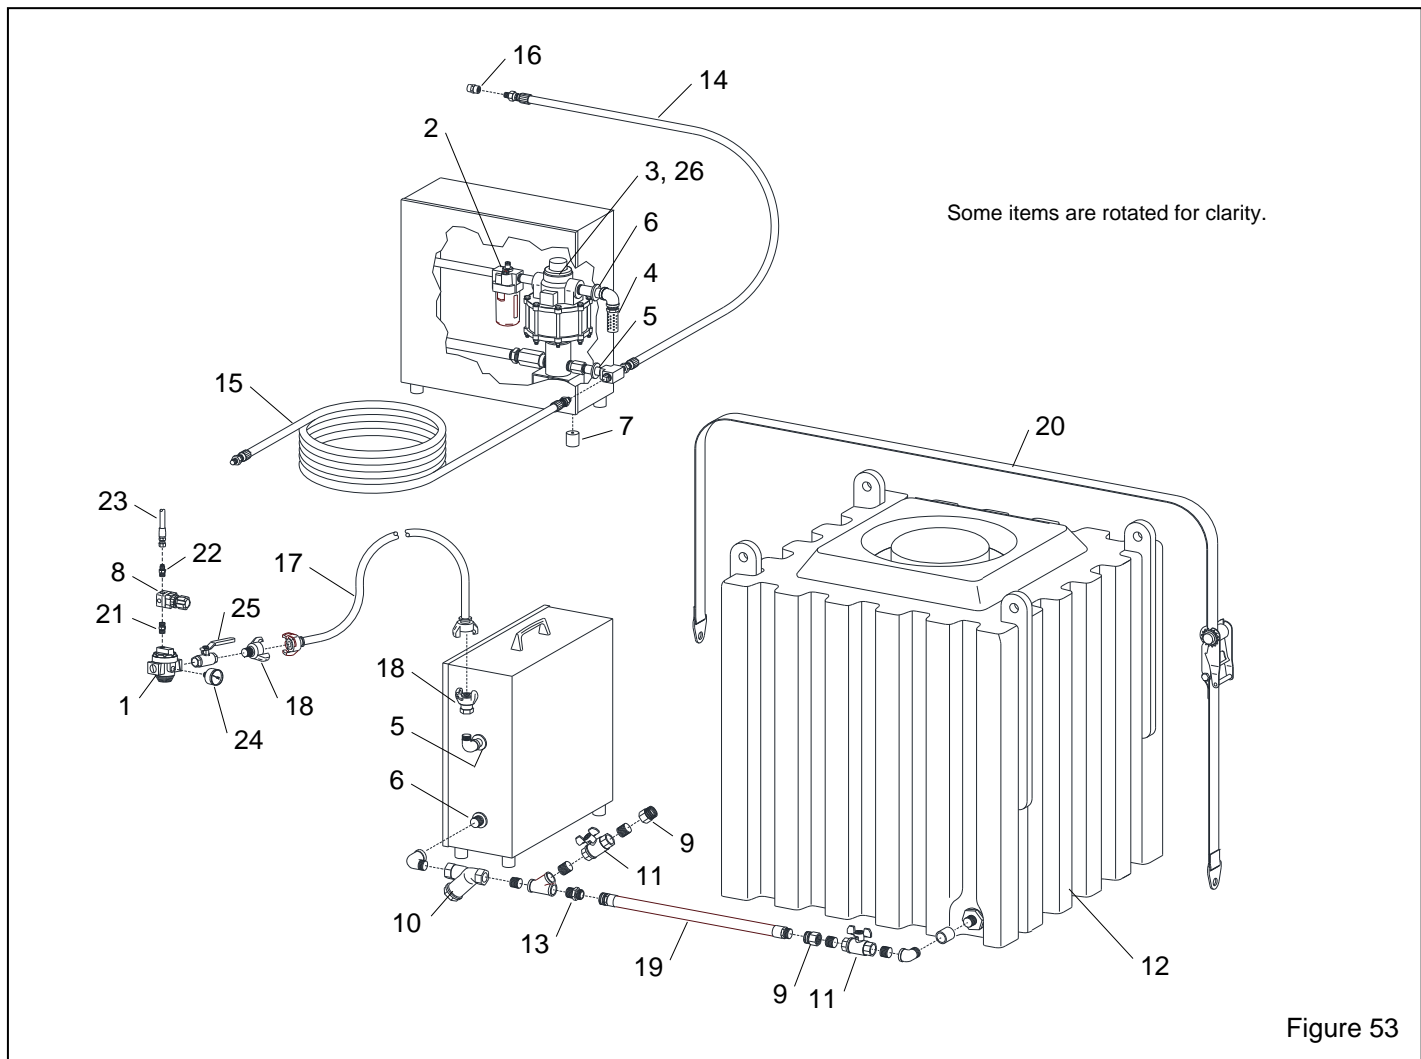

Figure 53
9.10 Pump Module and Water Tank, Figure 53